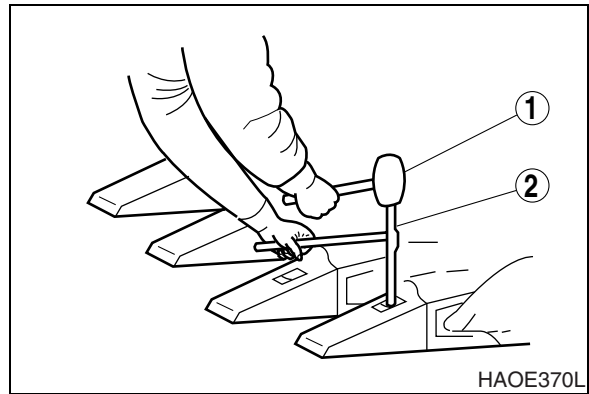

Figure 5
2. To replace a tooth, use a hammer (1, Figure 5) and punch (2) to drive locking pin assembly out of tooth and tooth adapter.